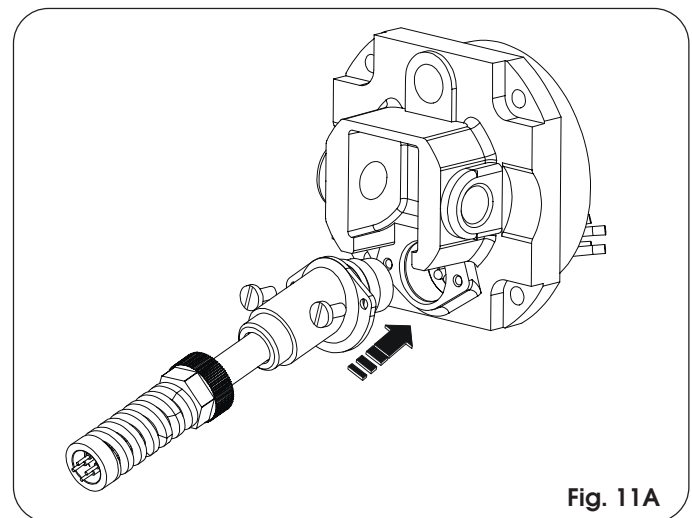

Fig. 11A
- Connect the power cable of the operator (Fig.11A).
- Fasten the screws (Fig. 11A).